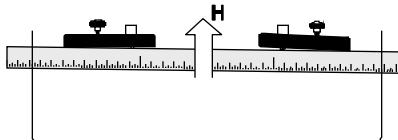
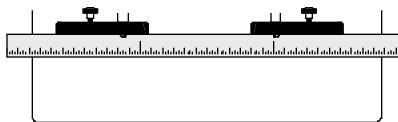
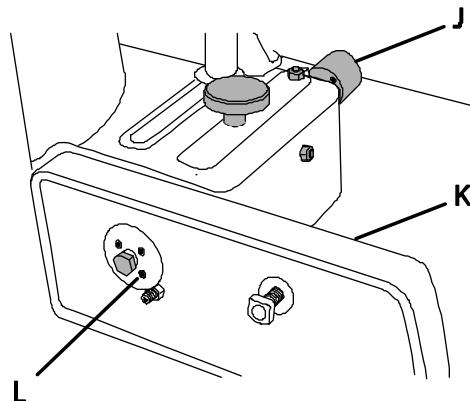

Figure 9
Figure 10
Figure 11
6. Remove both fences and place the straightedge against the infeed and outfeed fence castings (Figure 9).
8. Maintain steady pressure of the straightedge against the fence castings (H, Fig. 9). At the same time, attempt to bring both fences into alignment as shown in Figure 10. This is accomplished by alternately making incremental adjustments to four setscrews (L, Fig. 11) on the front face of the casting (K, Fig. 11) with a 2mm hex wrench, followed by repositioning the casting with the *micro adjust dial* (J, Fig. 11) as required.
Important: It is recommended that the adjustment setscrews (K, Fig. 11) be rotated in 1/16th increments or less at a time.
Alignment is complete when the skewed and reference fence castings are coplanar (in-line) as shown in Figure 10.